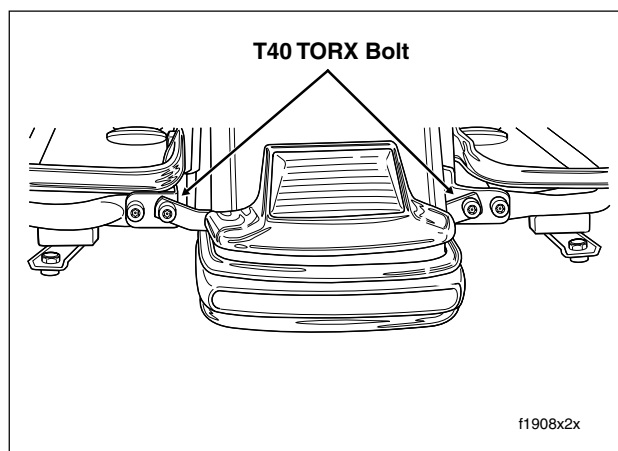

Figure 2-181. Release Bumper From Saddlebag Rail
8. At rear of vehicle, remove inside bolt (and flange nut) to release rear bumper support rail from saddlebag support bracket and saddlebag support rail. Repeat step on opposite side of vehicle. See Figure 2-181.
7. Start inside bolt (with flange nut) to fasten rear bumper support rail to saddlebag support bracket and saddlebag support rail. Repeat step on opposite side of vehicle. See Figure 2-181.